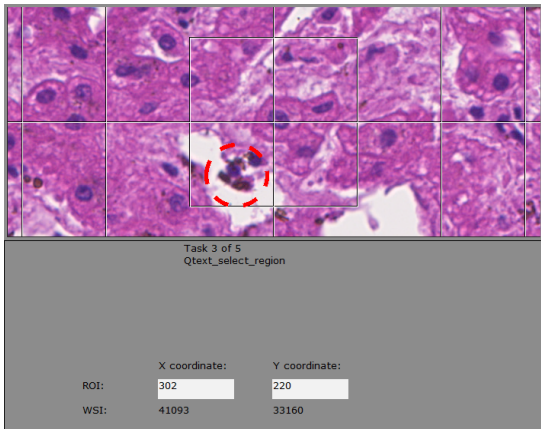

Figure 1
- **Description and purpose:** Select a reason in WSI (e.g. find a mitosis), eeDAP can save the X-Y coordinates on the ROI and WSI (*Figure 1*).